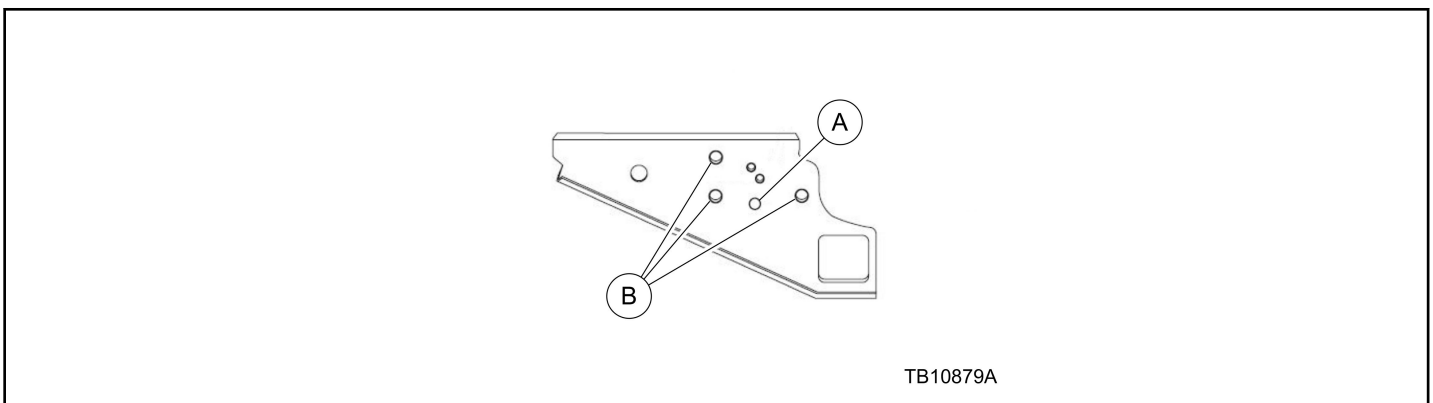

Figure 3 - Article 16-0087
4. Locate in the driver side plate of the trailer hitch the following holes. (Figure 3)